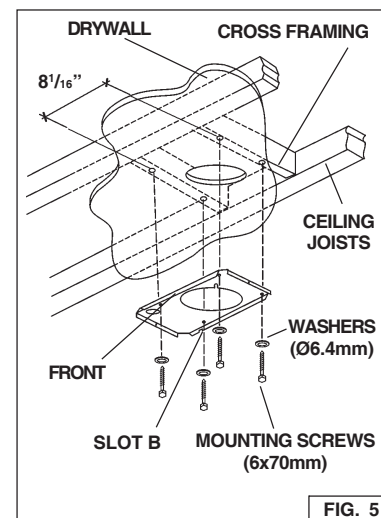

FIG. 5
3. Secure the support frame bracket to joists and cross framing with four screws provided (6x70mm) and four washers (D. 6.4mm). Make sure screws are driven into center of joists and framing for maximum strength. Be careful, because the position of the bracket determines the final position of the apparatus: the side with the slot B corresponds to the side opposite the controls. Fig. 5.